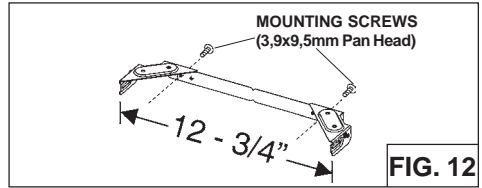

FIG. 12
1. Assemble the flue mounting bracket, adjusting outside width as shown. (Fig.12)